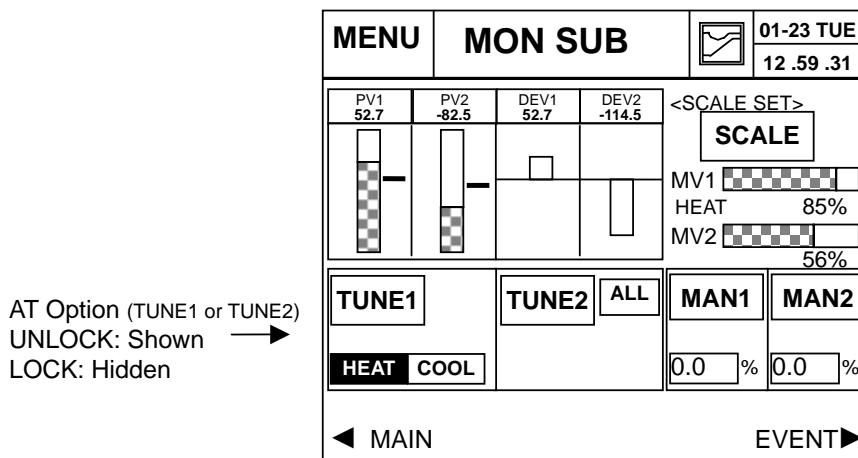

Fig. 3.18.4 MON SUB Screen
(5) AT Option
- If the AT option is set to “LOCK”, the channel 1 and 2 section will be hidden in the screen as shown in the Figure 3.18.4. Therefore, auto tuning cannot be performed.